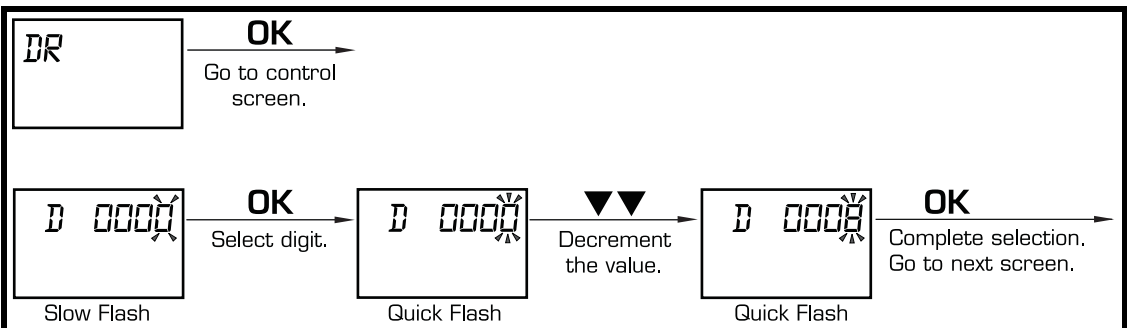

Figure 6. Selecting Off Time
2. Follow the steps in Figure 6 to select the off time (1–10) to be changed.